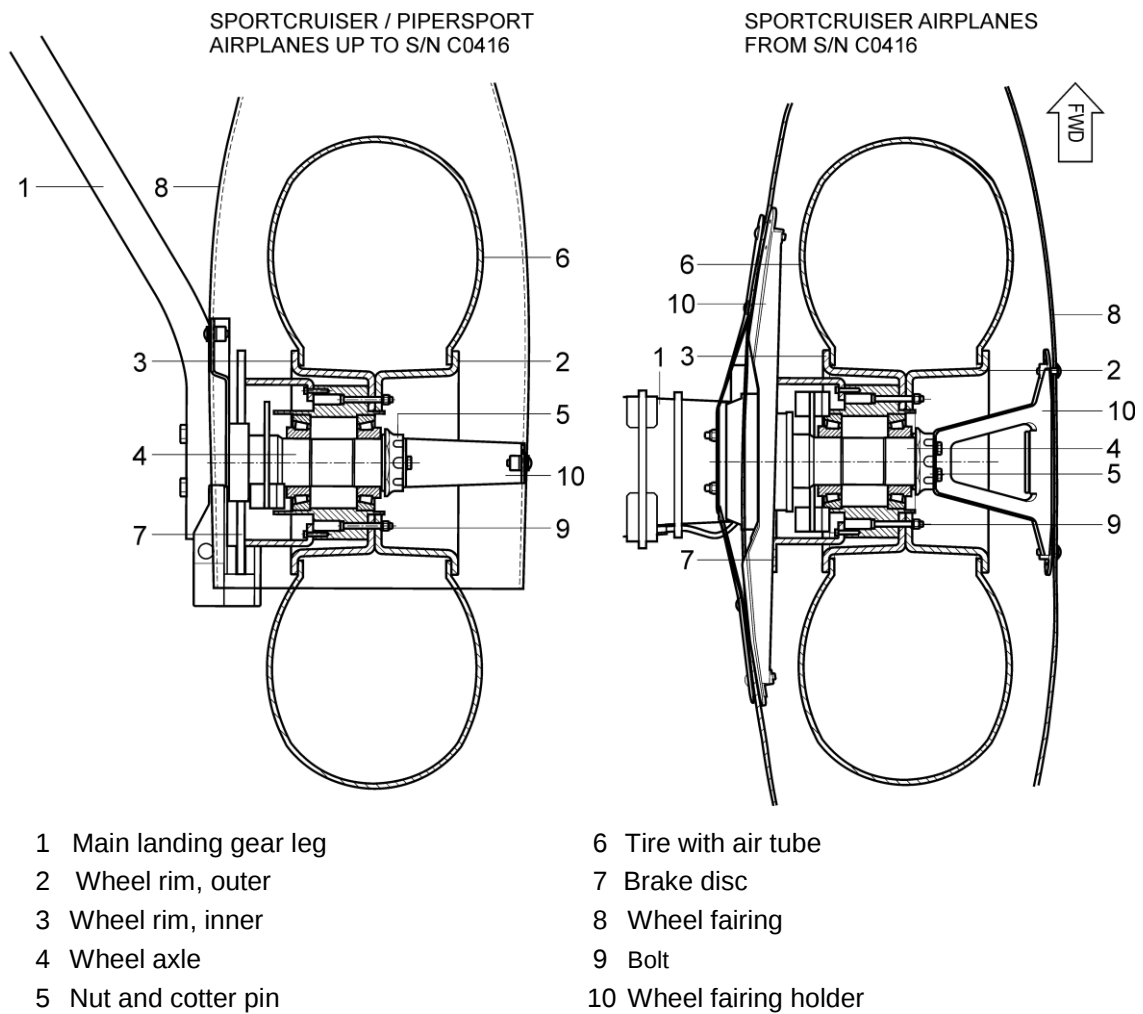

Fig. 8-2: Main landing gear wheel
Main landing gear wheel rim (2; 3, Fig. 8-2) is pressed of aluminum. Wheel rim is split in order to facilitate assembly and disassembly of tire. Both halves are joined by bolts (9). Main landing gear wheels are equipped with the brake discs (7) which are attached to the inner half of the wheel rims (3). Wheels are equipped with tires and tubes (6).